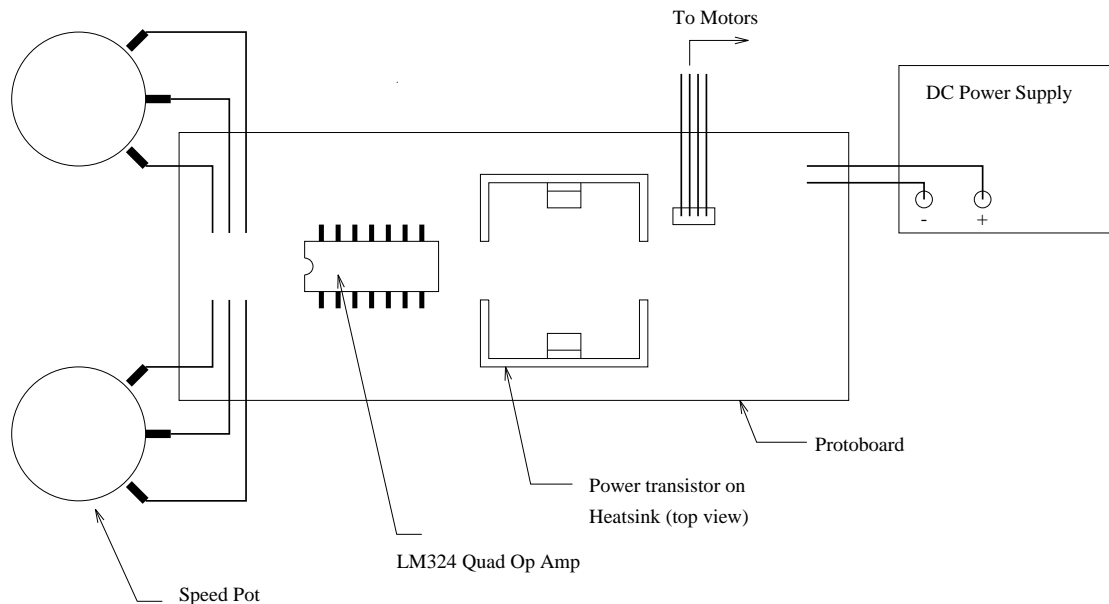

Figure 11: Example Protoboard Layout
2. Make a scale drawing of the circuit layout. You can do this as a sketch on squared paper, or use a computer drawing program. (Your instructor uses Xfig running under the Linux operating system.) An example, to use as a guide, is shown in figure 11. This figure is incomplete and not to scale. Your figure should include all components and be close to scale size.